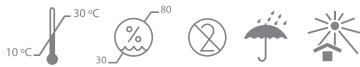

Figure 1
La formulación del indicador de lavado permite la detección de fallas que afectan la eficacia del proceso de limpieza tanto interna como externa de endoscopios en lavadoras reprocesadoras automáticas. El test soil debe lavarse por completo tanto en la parte interna (A) como externa (B) del dispositivo (Fig. 1). La utilización de ambos indicadores es lo recomendado, aunque opcionalmente se puede verificar sólo la limpieza interna. La tinta del indicador no es tóxica.
Chemdy® Lumenia CDWE cleaning indicator consists of a synthetic, self-adhesive and thermoset support of 38 mm x 6 mm, printed with a test soil made up from a mixture of especially combined colored natural components. The test soil was developed and validated in compliance with the requirements established in ISO/TS 15883-5:2005 standard. The cleaning indicator's formulation allows the detection of failures that may affect the cleaning performance of endoscopes (both internally and externally) in Automated Endoscope Reprocessors. The test soil must be completely washed in the internal (A) as well as in the external (B) side of the device (Fig.1). It is recommended to use both indicators, although optionally, you can verify only the internal cleaning. The indicator's ink is not toxic.